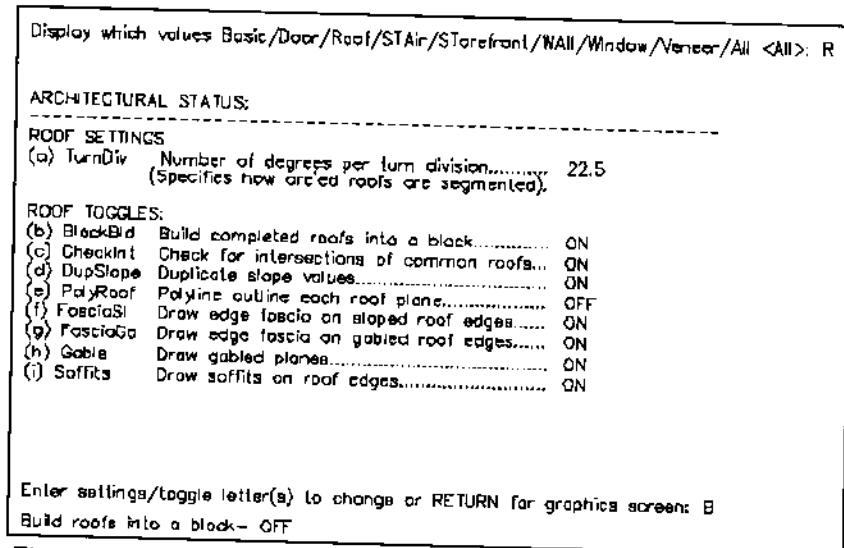

Figure 3.
4. Select the Roof status display command from the Settings pull-down menu to verify or change the roof settings shown in Figure 3.